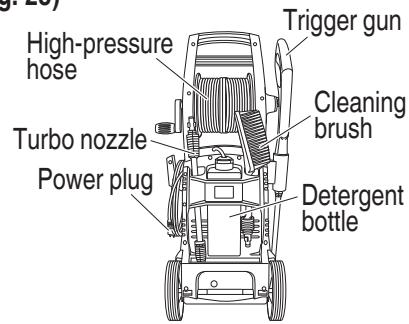

Fig. 28
5. Tidying up and storing the washer after use (Fig. 28)
The accessories can be stored inside the washer as shown in **Fig. 28** when not in use and when being carried around.